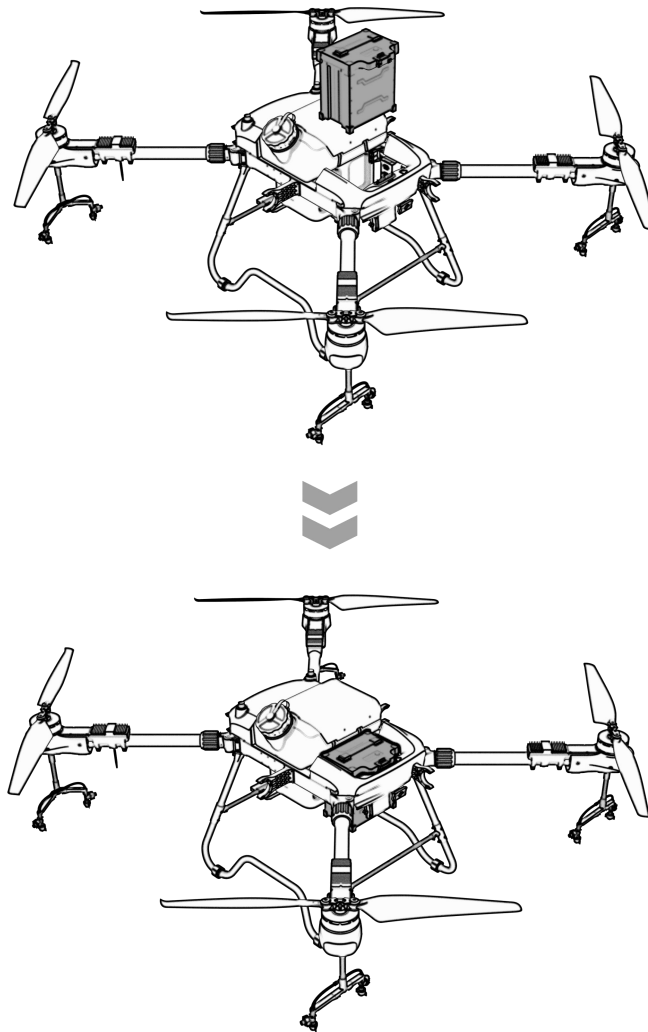

Figure 1-5-6
Step 2: Connect the battery output port to the body, and the battery is locked in when you hear a “click”. See Figure 1-5-6.